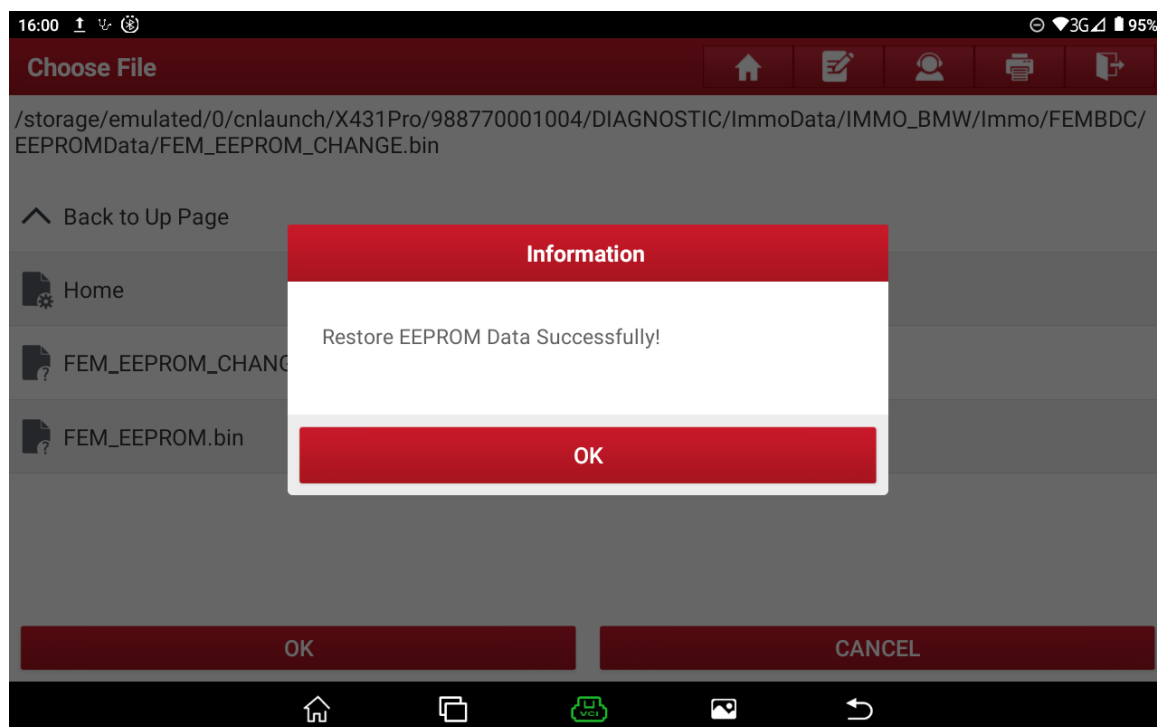

Figure 21
21. After the data is successfully written, click “OK” to remove the EEPROM chip from the chip clamp and install it back on the FEM board, as shown in Figure 21.